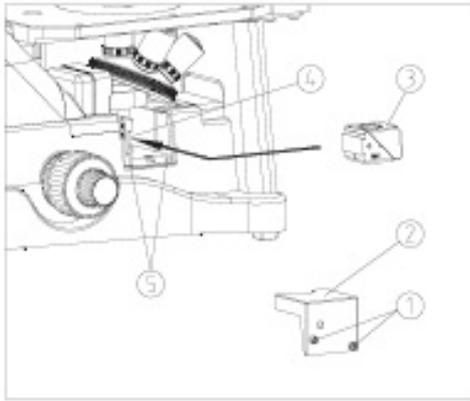
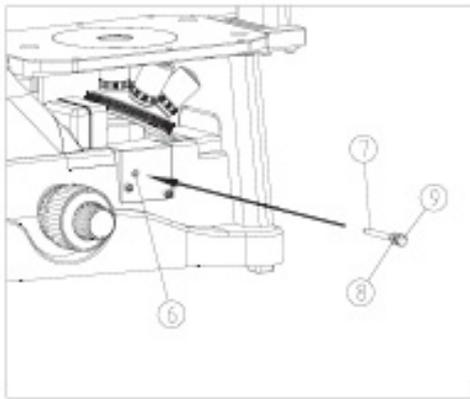

Figure 4
Figure 5
- (1) Loose the lock-screw 1 with M4 inner hexagon spanner and take off right cover 2 (Fig. 4)
- (2) Match the dovetail glut of filter block B1 3 to the groove of sliding channel 4, and push 3 into sliding channel 4 at right.
- (3) Put on the right cover 2, point the screw 1 to the hole 5 on sliding channel 4 and tight it with M4 spanner.
- (4) Insert the pole 7 into the hole 6 on right cover 2, and point it to the hole at side of filter block B1 3, then tight. (Fig.5)
- (5) Loose the screw cap 9 a little, and turn the remark block 8 to make the letter “B” point to operator, then tight 9.